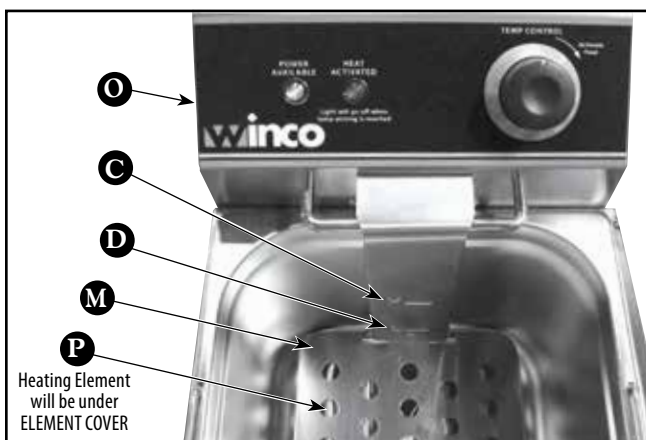

Figure 3. Oil Level Indicator Inside Well
- C HIGH OIL LEVEL** (Figure 3) This is the maximum level mark for the well. Do not fill with oil above this mark because it may cause oil to overflow the well after the basket of food has been added.
- D LOW OIL LEVEL** (Figure 3) This is the minimum level mark for the well. Do not operate with oil below this level as the oil may overheat and start a fire.
- M HEATING ELEMENT COVER** (Figure 3)
- O REMOVABLE ELECTRICAL POWER HEAD** (Figures 3, 6, & 7)
- P HEATING ELEMENT** (Figures 3 & 7)